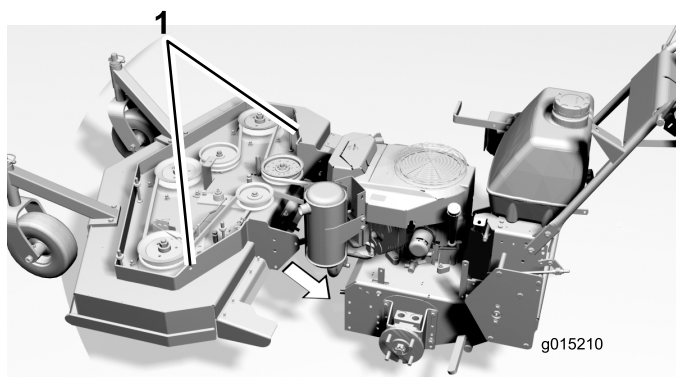

Figure 2
3. Remove the deck cover and the PTO engagement linkage rod before lifting and manoeuvring the rotary cutting deck into position against the power unit (Figure 2).